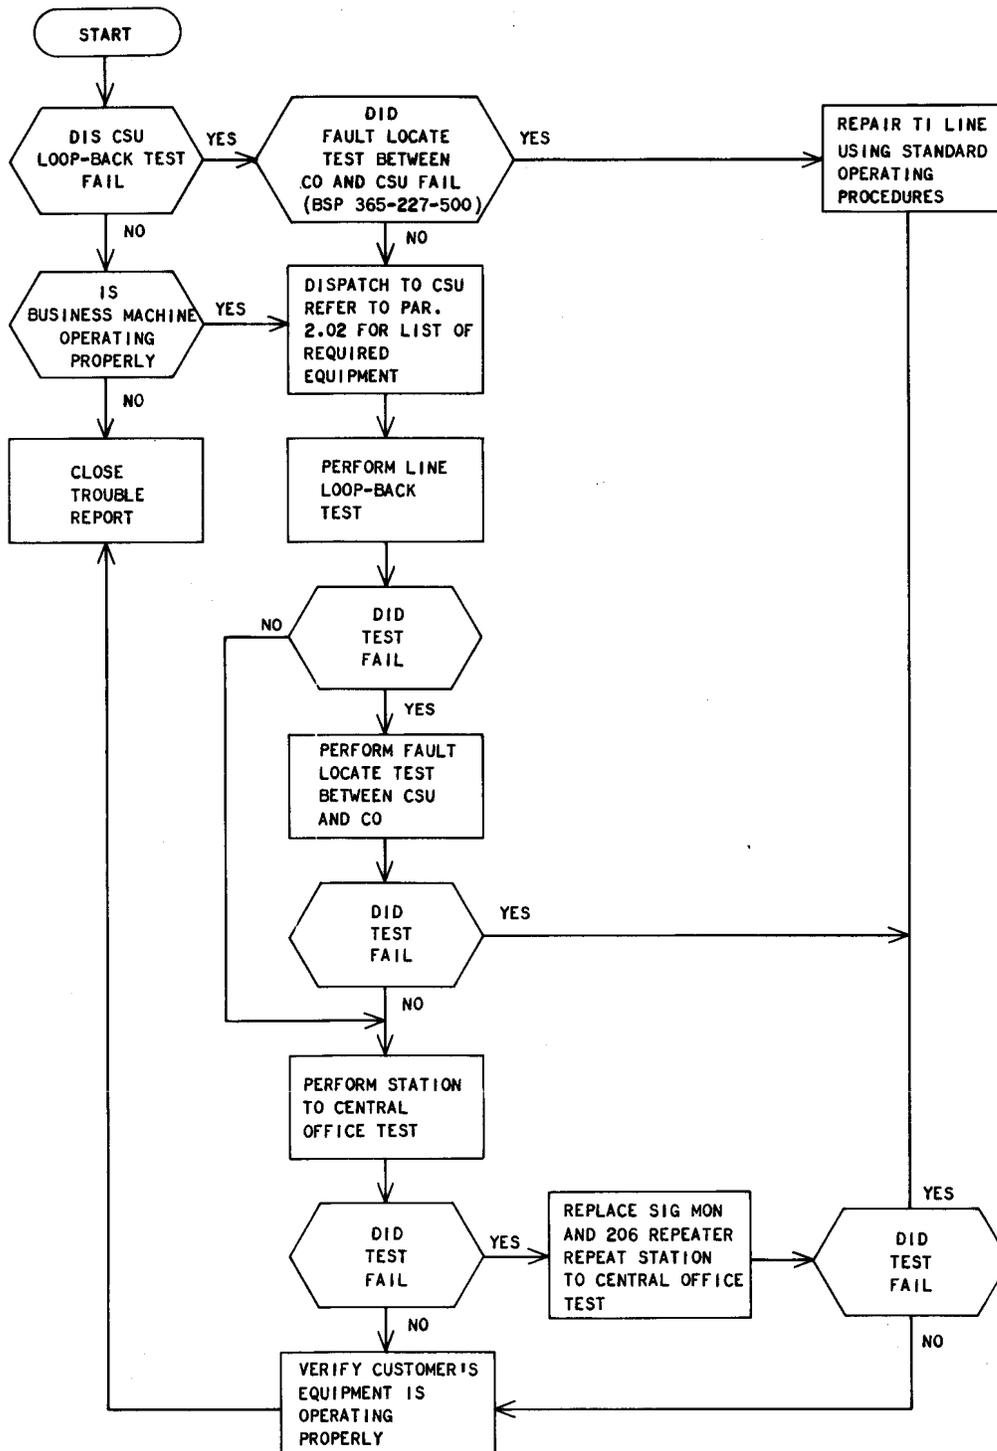

Fig. 1—CSU Trouble Isolation
2.01 When investigating a trouble report, proceed as directed by Fig. 1. Refer to Section 595-105-500 for the test procedures applicable to the CSU.